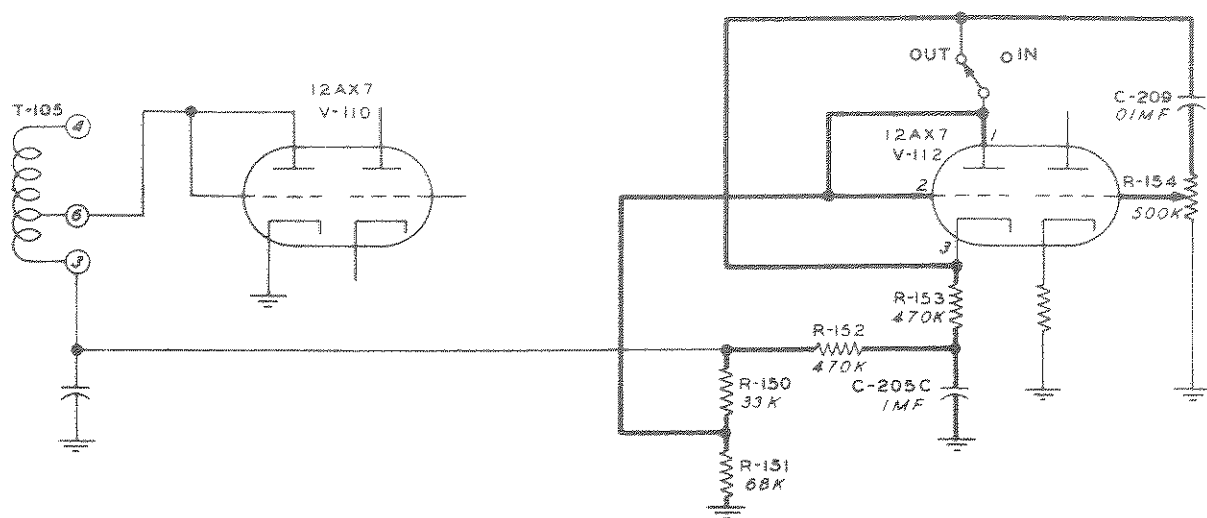

Figure 4-4. 51J-3 Noise Limiter Circuit
4.2.10. NOISE LIMITER. - A series type noise limiter is used in the 51J-3 receiver. This limiter employs one-half (pins 1, 2 and 3) of a type 12AX7 dual triode tube, V112. Refer to figure 4-4. Due to a-c loading of the